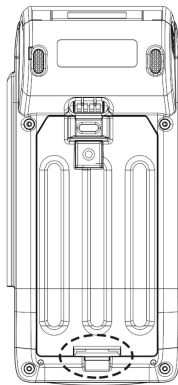

Figure 8
- STEP 1: Push the latch to pull the battery cover from AT-100 as Figure 8.